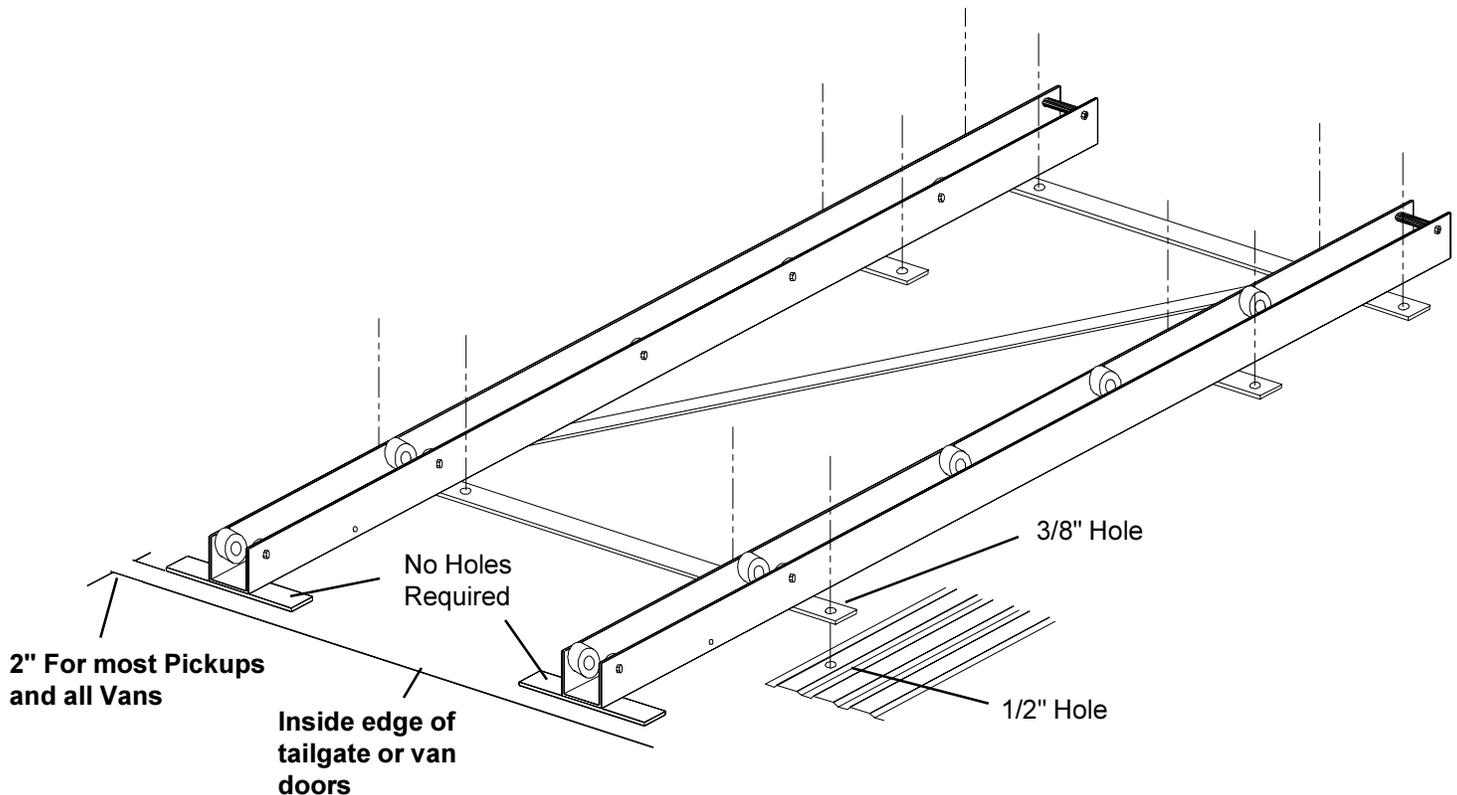
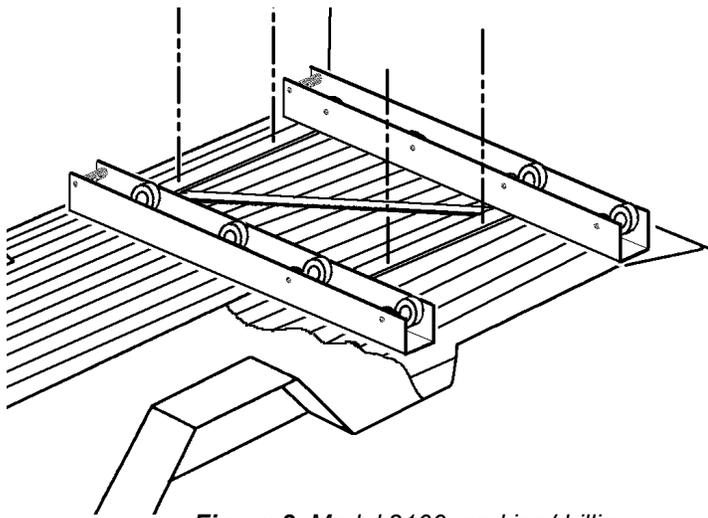

Figure 2. Base Assembly marking/drilling (Model 3400 shown)
Figure 3. Model 3100 marking/drilling
2. Mark hole locations on the mounting bars, centering the holes on the bars and on the top portion of the floor ribs if possible. If it is not possible, four Spacers have been provided to fill the space between the mounting bars and the lower part of the floor ribs. **NOTE:** Twelve holes are required for Models 3300 & 3400, eight holes for Model 3200 (see *Figure 2.* for mounting holes) and four for Model 3100 (see *Figure 3.*). Drill through the mounting bar and the floor at one rear location, and insert a 5/16-18 x 1-1/2" Hex Hd. Bolt into the hole. Drill one front mounting bar location, and insert a bolt. Drill the rest of the mounting bar/floor holes.